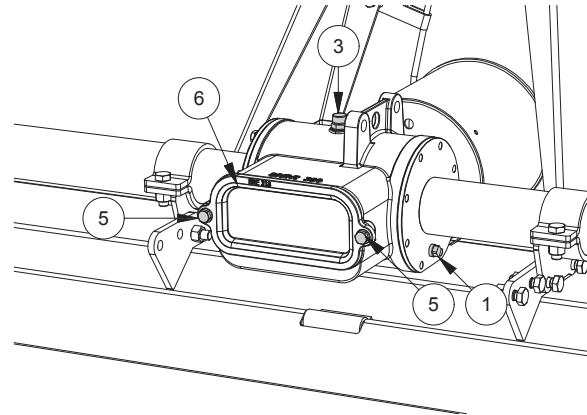

FIG. 34
- Loosen screws (5, "Fig. 34"). Remove the cap (6).
- Fit back the cap (6). Tighten bolts and nuts.